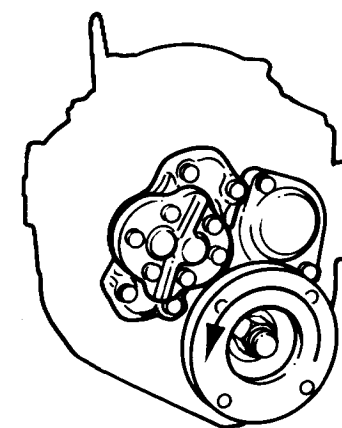

Fig 4. Oil-pump mounting — clockwise engines
- Fig. 4. Oil pump mounting – clockwise engines